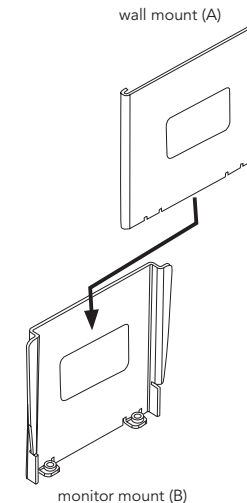

fig. 2
Slide monitor mounting plate (B) onto the correctly installed wall mounting plate (A). Install safety screws to secure brackets together, see fig.2.